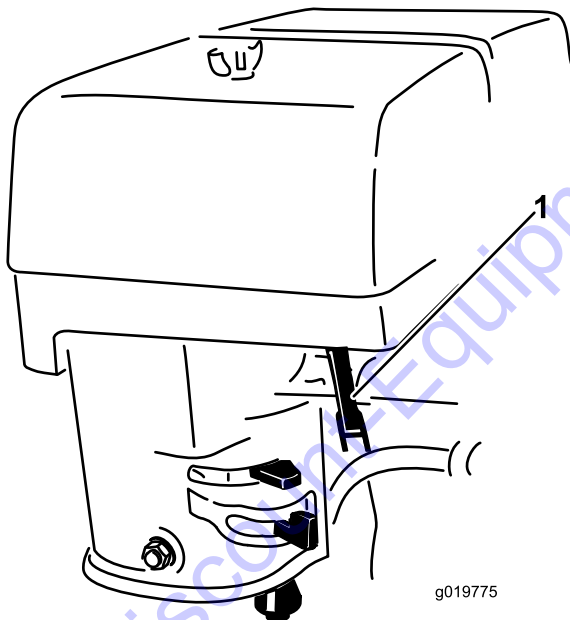

Figure 15
4. Move the throttle lever midway between Slow (turtle) and Fast (rabbit) positions (Figure 15).